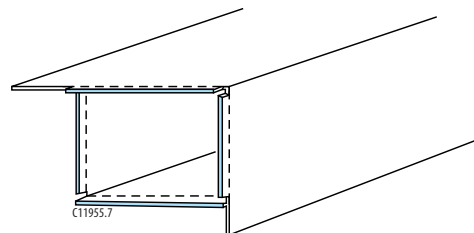

Figure 5-7:
6. Step the tabs inward to allow the replacement lower rail section to fit over the original rail (figure 5-7). Weld all four edges together.